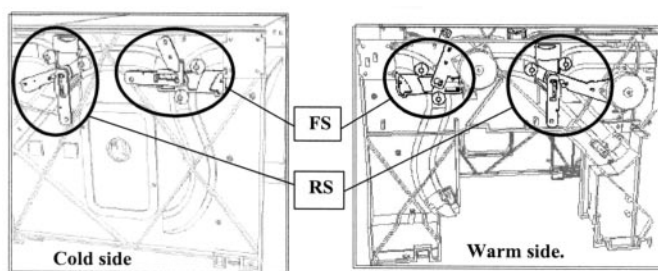

Figure 5-14. Verify that the way switches operate correctly.
2. Refer to Figures 5-14. Slide the lock into the end position and verify that the way switch cannot be moved.